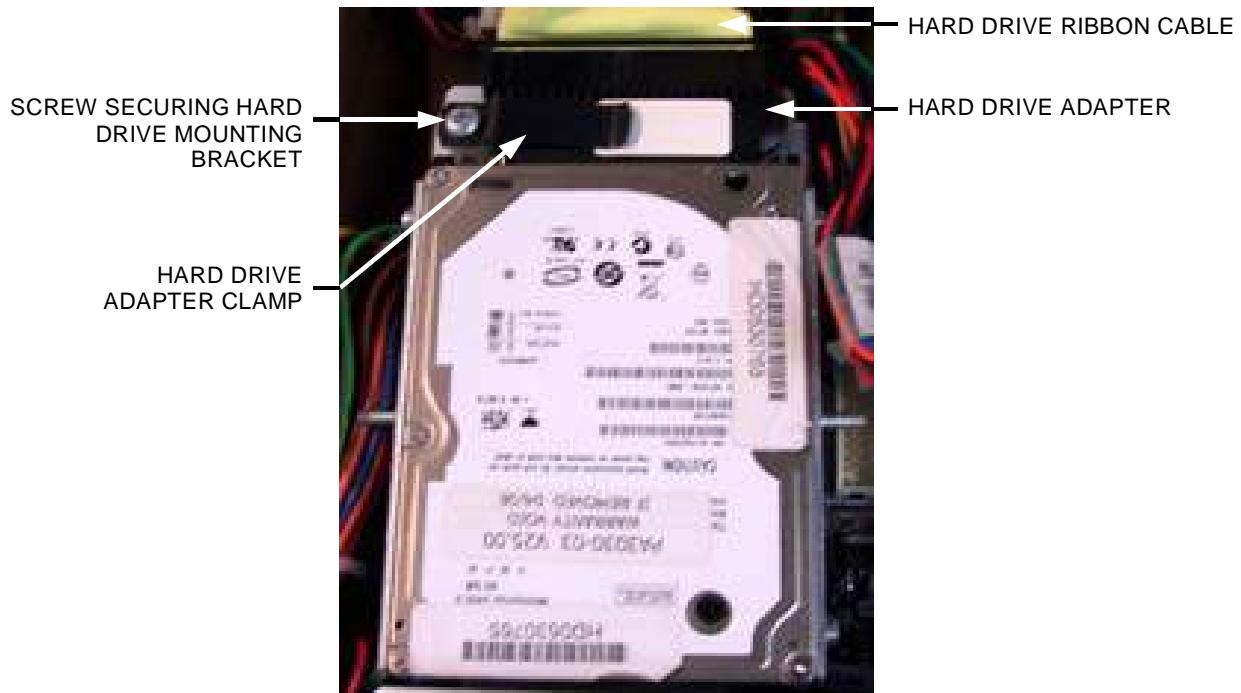

FIGURE 3 - CLOSEUP OF PATA HARD DRIVE
4. Remove the screw securing the hard drive mounting bracket to its mounting plate (see Figure 3). This screw will not be reused.
5. Remove the hard drive from its mounting plate by sliding the assembly up and off the mounting plate. Disconnect the hard drive adapter and attached ribbon cable from the hard drive (see Figure 3). Then, separate the hard drive adapter from the ribbon cable and 2-pin power cable. This hard drive adapter will not be reused.
1. Attach the 2-pin power cable in the game to the new hard drive adapter, which comes attached to the new hard drive. Do so by locating the two stand-alone pins on the hard drive adapter, and then sliding the 2-pin adapter onto these pins (for help, see the label on the hard drive adapter - see Figure 3). Note: The black wire on the power cord MUST be facing toward the label side of the hard drive adapter. Failure to do so could result in a damaged hard drive.
2. Attach the hard drive ribbon cable in the game to the new hard drive. Do so by lining up the pins on the hard drive adapter with the mating holes on the ribbon cable (the red stripe on the ribbon cable should be on the side opposite the power cable). Carefully insert the ribbon cable all the way into the adapter so that it is fully seated. See Figure 3.
3. Slide the new hard drive assembly onto the game's mounting plate. Be sure that the hard drive is flush to the mounting plate when doing so. Both the label on the plastic of the hard drive adapter and the label on the hard drive itself should be facing out. Align the hole in the mounting bracket with the hole on the mounting plate, then secure the supplied screw, washer, and clamp to the mounting plate. The clamp should rest on the hard drive adapter, holding it in place when screwed in tightly. See Figure 3.